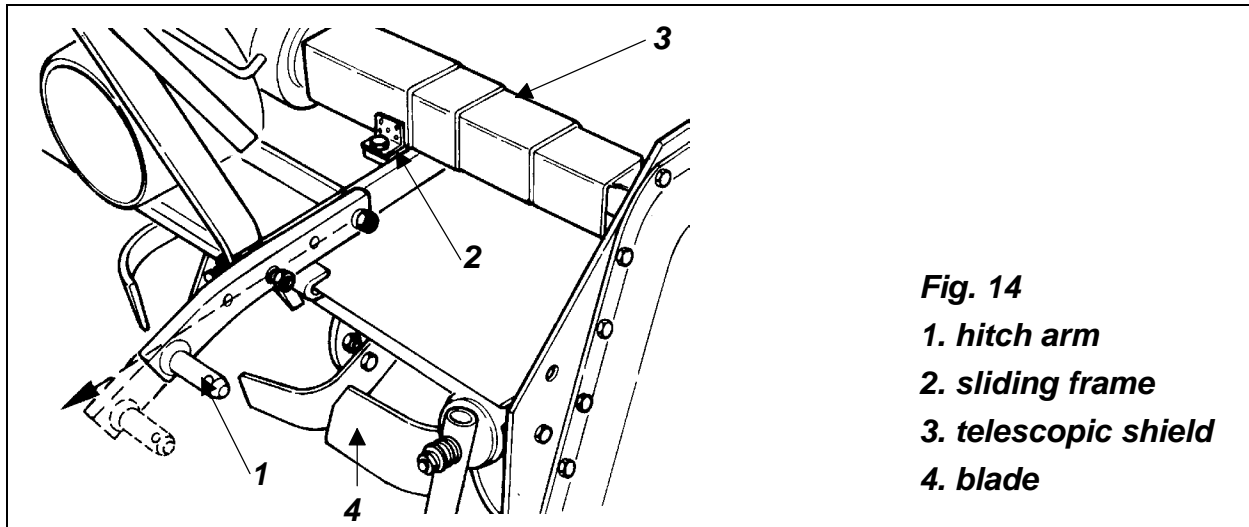

Fig. 14
2. The tiller hitch arms are adjustable in and out and may be positioned turned up or down, depending on driveline length and tractor size (**see fig. 14**).